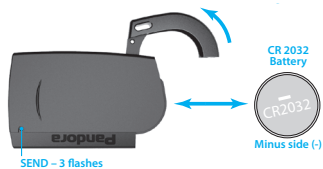

fig. 2
- Slide the battery cover in the direction shown by the arrow (fig. 2);